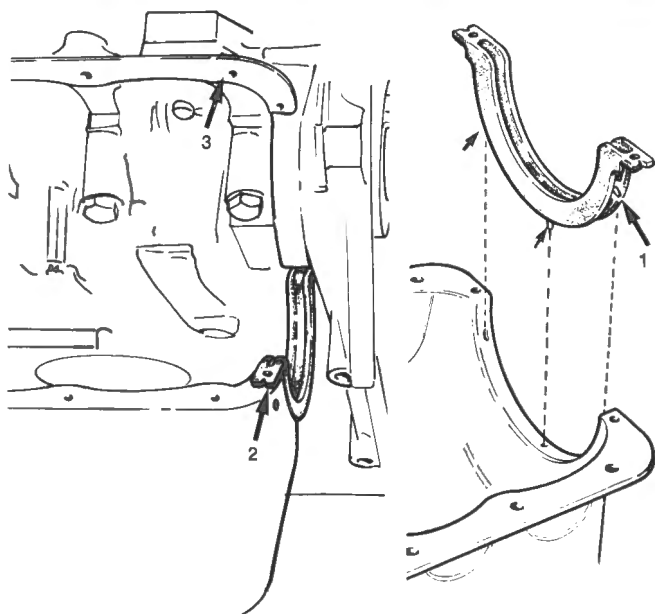

Fig. E-6
- 2 Fit the seal over the reservoir flange, dry, and position the locating legs in the holes of the flange. Fig. E-6.